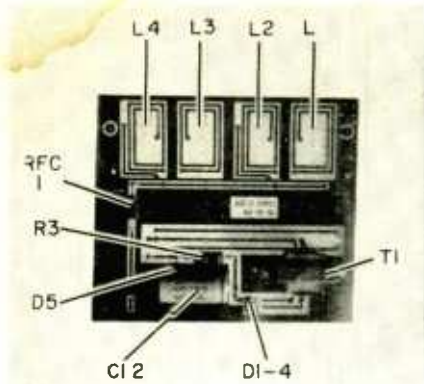

FIG. 5—POWER SUPPLY parts in position on the main circuit board.
Inductances L1, 2, 3, 4 are etched onto the master circuit board as shown in Fig. 5. The complete circuit board alone is available from PAIA ELECTRONICS, P.O. Box 14359, Oklahoma City, Oklahoma 73114; price \$8.00. Specify item 2712PC. The same source will supply a complete kit of all parts including the circuit board, but less the case and knobs, for \$27.50 plus postage for 3 pounds. Specify item 2712K.
If the complete etched-inductor/circuit board is utilized as shown and described here, the power supply components should be mounted first, and the power supply checked out as shown in Fig. 5. At the top of the board, etched inductors L1,2,3 and 4 appear from right to left. Note use of etched link coupling for inductors L2 and L4 output coupling.